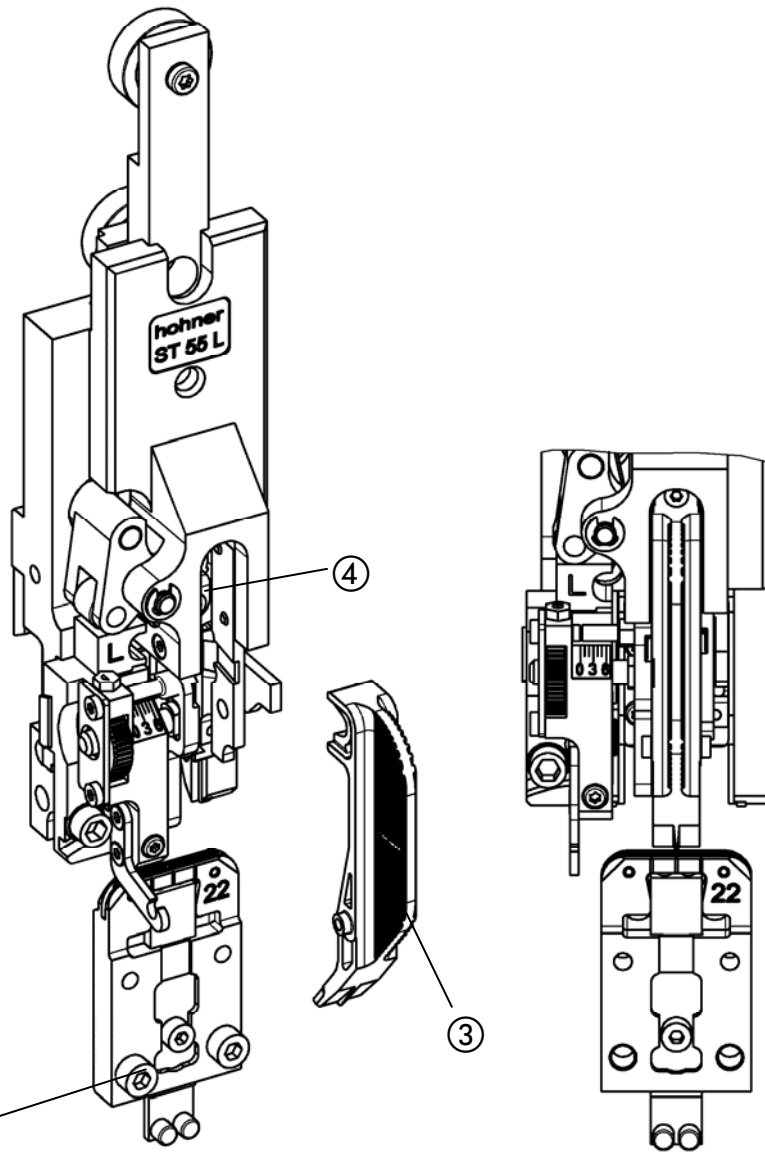

Fig. 7
- Fig. 7 -
- Place gauge ③ on former locating pin ④ and turn downward against stopper. The clincher box can be exactly aligned in this position when the gauge is aligned with the scale marks on the clincher box.
- Tighten clamping screws ① and remove gauge ③.